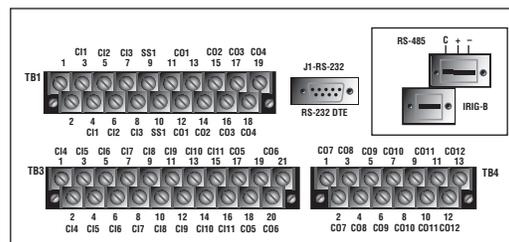

Figure 31. Back view of top half of form 6-TS/LS recloser control
5. Remove any control input and status output wiring from TB1, TB3, and TB4 (**Figure 31**).
6. Disconnect any serial communications ports and IRIG-B timing connections (**Figure 31**).